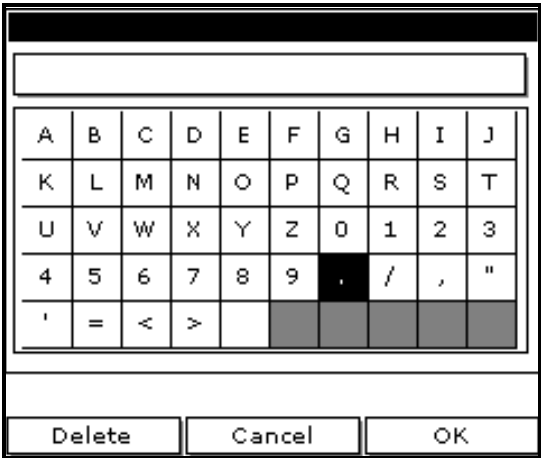

Figure 25: Text Creation Window
- 3. Use the arrow keys to move to the Label box and press [ENTER]. A screen similar to Figure 25 appears.